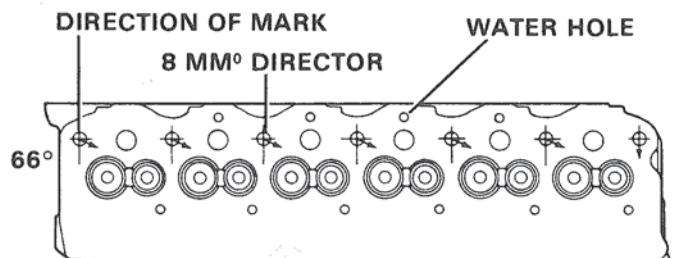

Figure 19. Direction of Installation of Water Director.
B. Place new part in head position water hole in director to aim at bridge between intake and exhaust valves. Figure 19.
- B. Place new part in head, position water hole in director to aim at bridge between intake and exhaust valves. Figure 19.